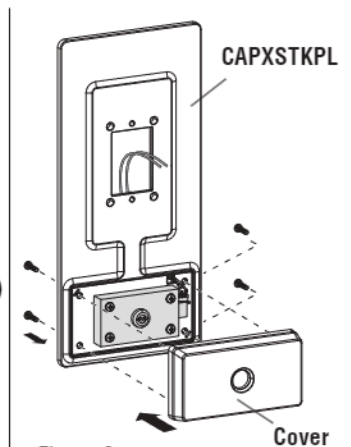

Figure 2
3. Position Cover over Postal Lock. Make sure that sealing gasket is properly seated. (See Figure 2)